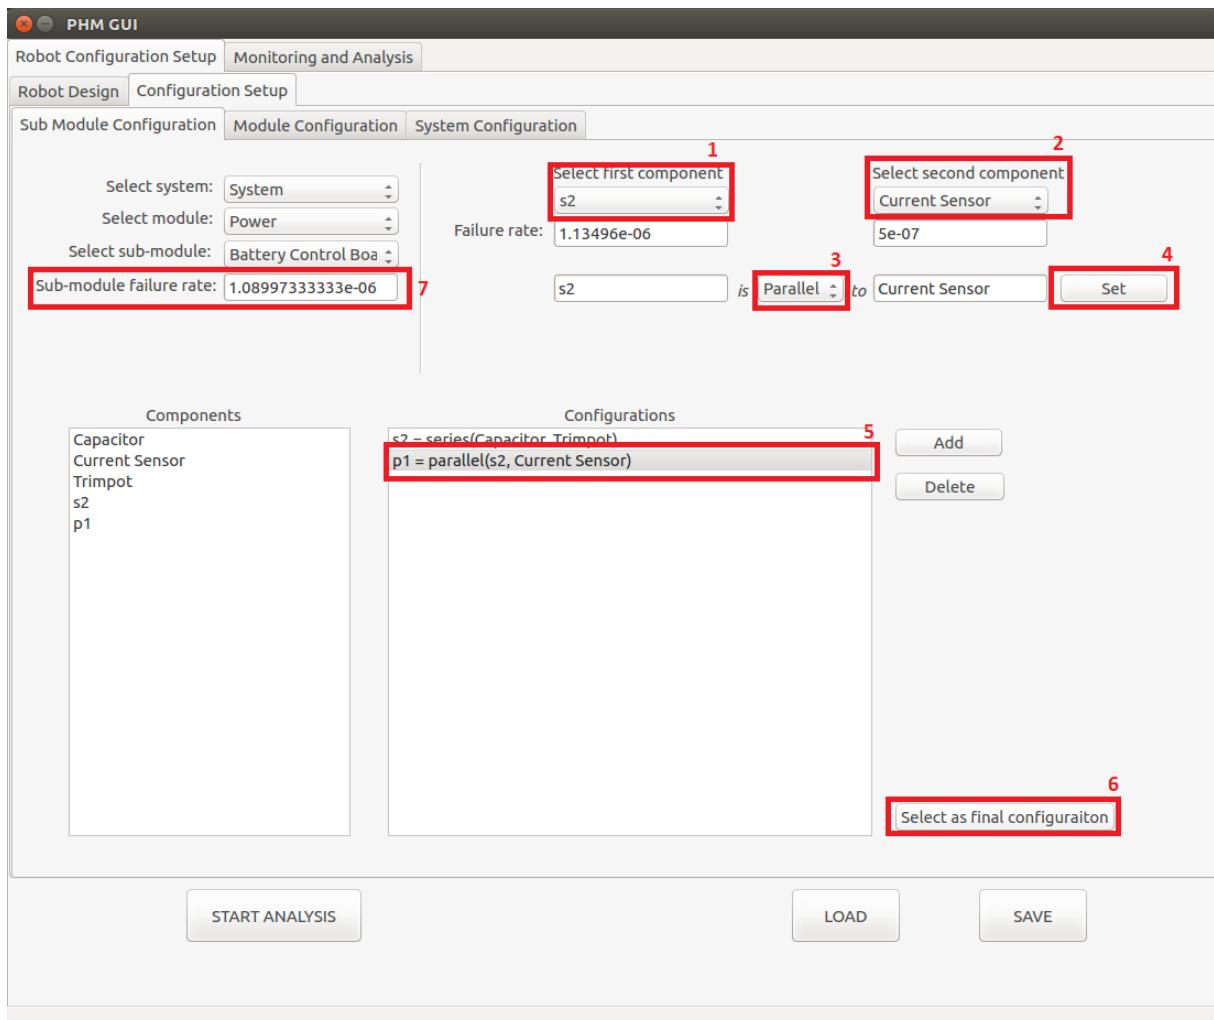

Figure 3.26 Configuration of a component with a previously done configuration
- ❖ There are two lists named “Components” and “Configurations” in the interface. In the “Components” list, the components and created configurations are located under the selected sub-module. Because in some cases, components can be configured together with the created configurations (See Figure 3.26, section 5).